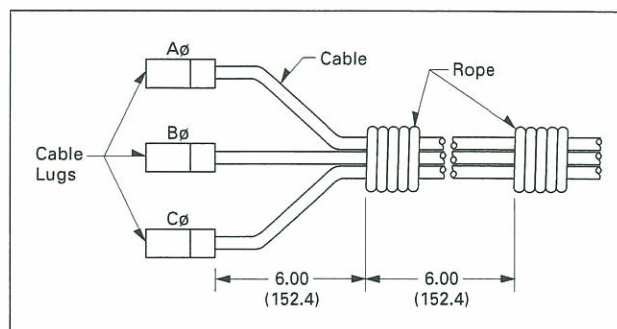

Figure 20. Cable Bracing
1. The material required for the cable braces is 3/8" diameter nylon rope ① or any rope having a minimum tensile strength of 2,000 pounds. ②
2. All cable conductors of a load circuit are to be bundled together with five adjacent wraps of rope at distances of 6 inches and 12 inches from the supply terminals for ratings up to 200 amperes maximum. (See **Figures 20 and 21.**)
① Wellington Puritan Mills, Inc., Madison, GA., Catalog Number 10989
② Norva Products, Carrollton, GA., Catalog Number TPR12